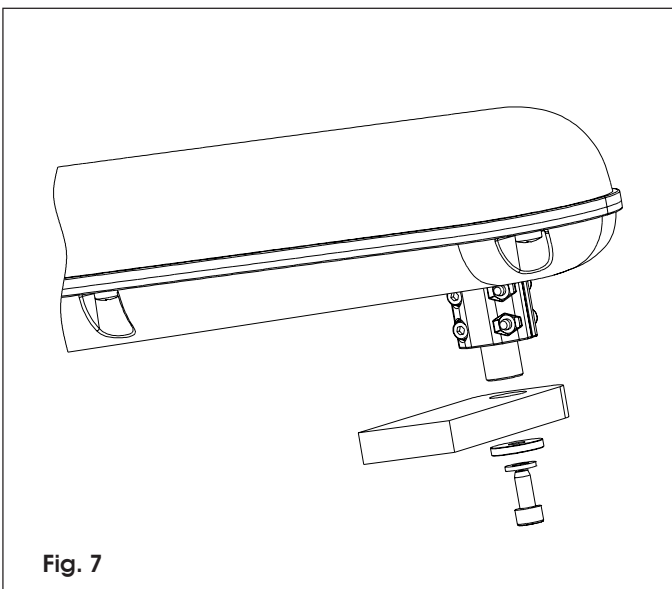

Fig. 7
- 4) Fit the front bracket to the front attachment pin as shown in Fig. 7.